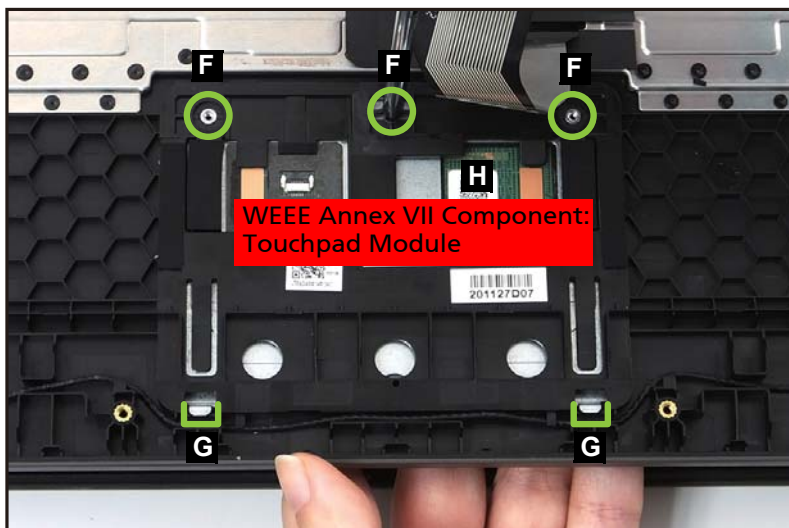

Figure 1-14. Touchpad Module Removal
6. Using the screwdriver, push the guide pins (F) firmly to release them from the top assembly (Figure 1-14).
7. Slide the touchpad module slightly to disengage it from the bottom latches (G), and then remove the touchpad module (H) from the top assembly (Figure 1-14).